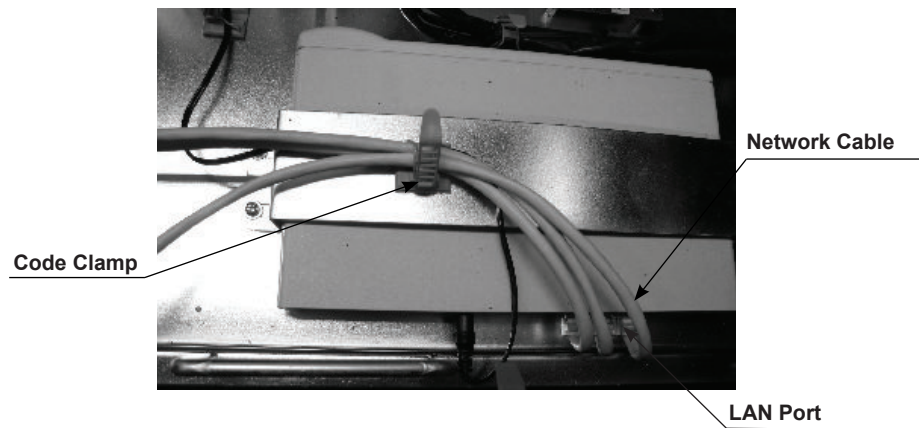

FIG. 21-2d
- 5** Remove the Hole Lid on the Base and pull the network cable through the hole to connect it to the HERB in the base. Then fasten it in place with the Code Clamp as in figure 21-2d. Close the Hole Lid in the direction as shown in the figure below.